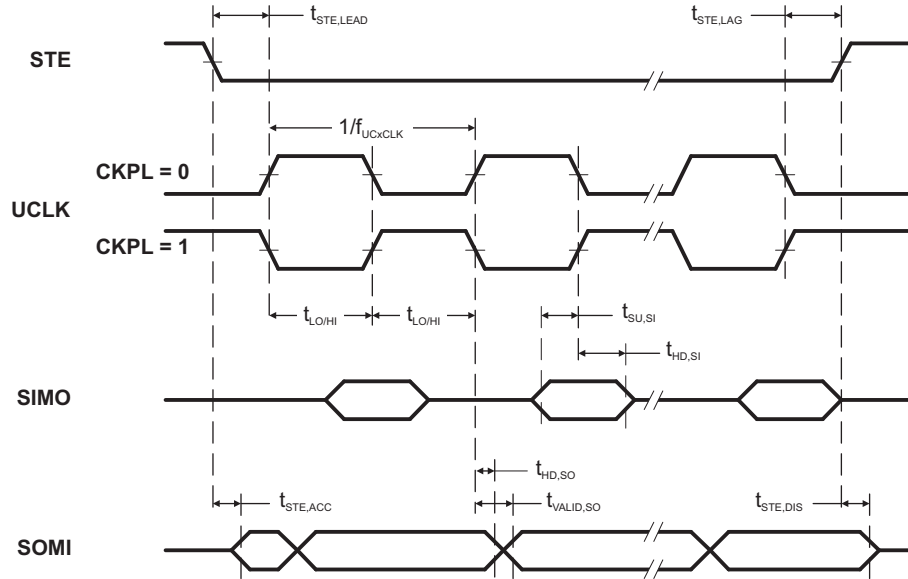
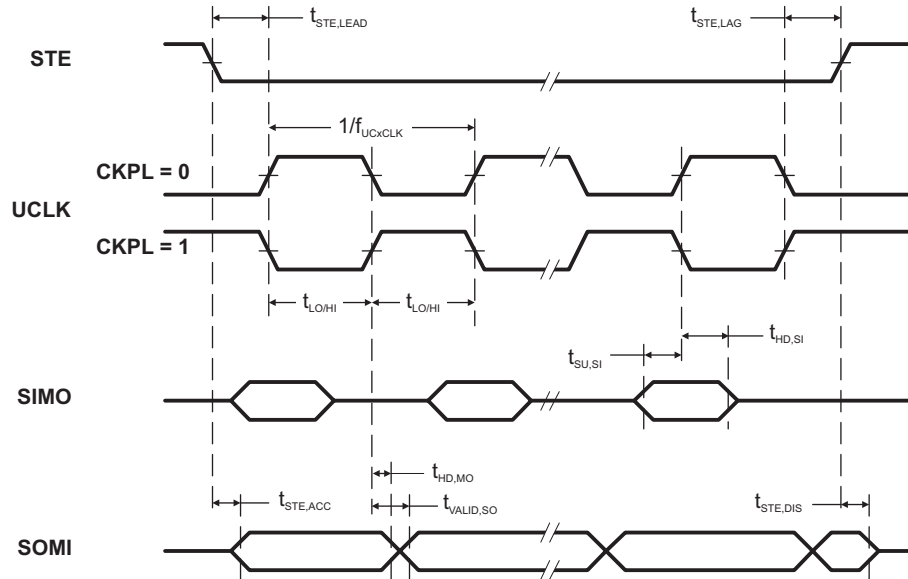

Figure 16. SPI Slave Mode, CKPH = 0
Figure 17. SPI Slave Mode, CKPH = 1
(see Note ⁽¹⁾, Figure 16 and Figure 17)
(2) Specifies the time to drive the next valid data to the SOMI output after the output changing UCLK clock edge. See the timing diagrams in Figure 16 and Figure 17.
(3) Specifies how long data on the SOMI output is valid after the output changing UCLK clock edge. See the timing diagrams in Figure 16 and Figure 17.